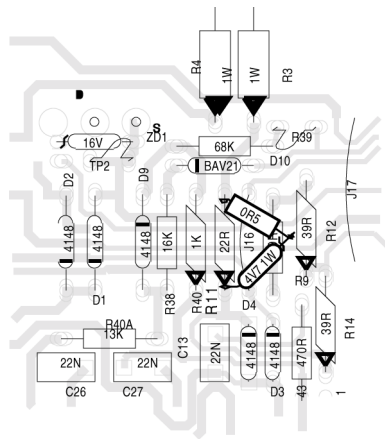

Figure 1
- Measure and remove any of the diodes coloured BLUE on the assembly drawing that may be damaged. Replace a 1N4732A 1W 4V7 zener (#6459) {These components already exist on version 9 and higher, add only in versions 9 and lower.} that may have been added to the component side of the board along with a series 0.5 ohm resistor. Refer to figure 1.